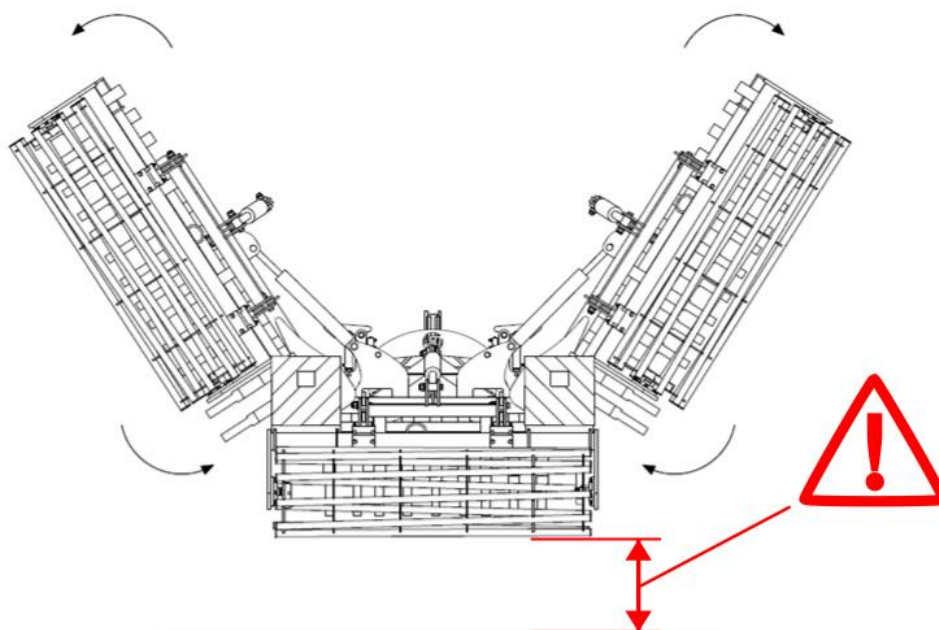

Figure 10 Machine opening sequence: opening the machine with special attention to the height of the arm ends from the ground.
- 5) Continue and do not interrupt the process of opening the wings until they are fully open (fig 10),